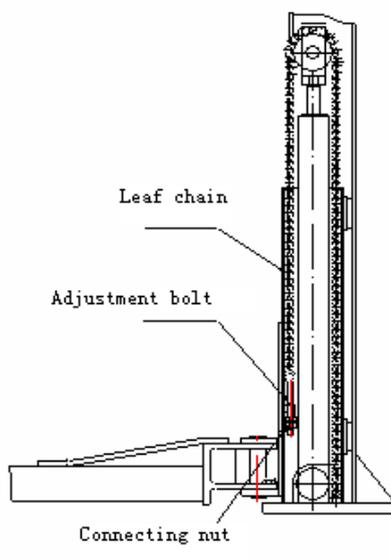

Fig.5
- Check to see if the connection between hydraulic cylinder and carriage is proper, if the connecting nut between the steel chain and carriage is loose or falling. Refer to Fig.5